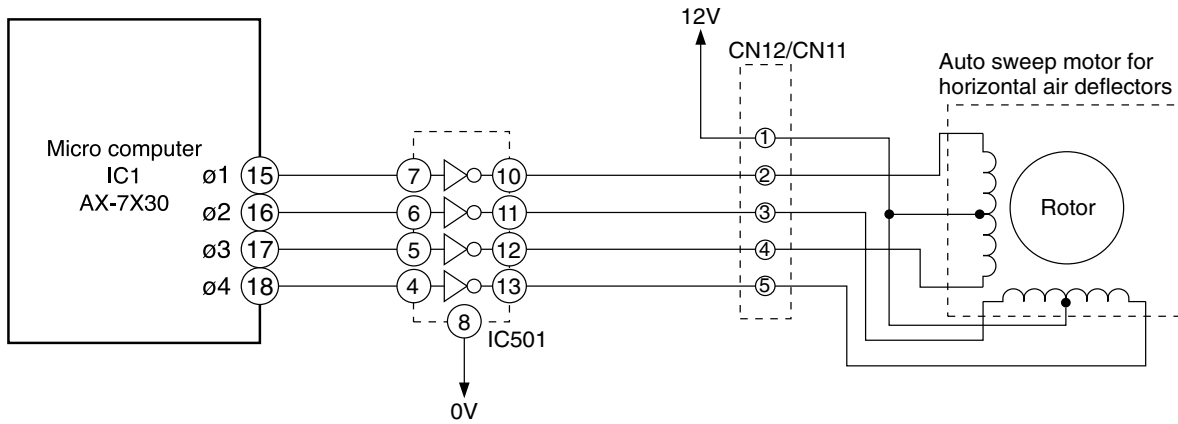

Fig. 5-1 Auto Sweep Motor Circuit (Horizontal air deflectors only)
- Fig. 5-1 shows the Auto sweep motor drive circuit; the signals shown in Fig. 5-2 are output from pins ⑩–⑬ of the micro computer.